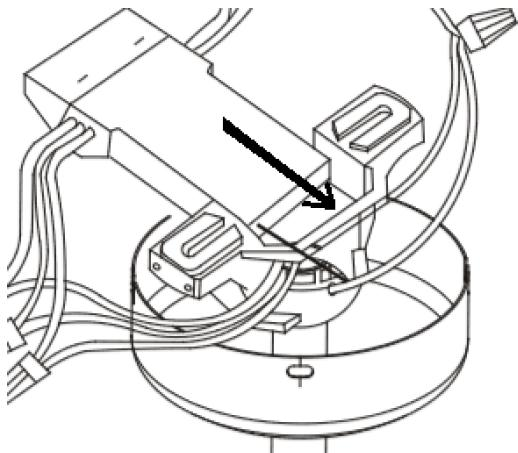

Fig. 11
9. Carefully insert the Remote Receiver above the hanger ball in the remainder spacing in the mounting bracket. Take care not to damage or loosen any of the wiring. (**Fig. 11**)